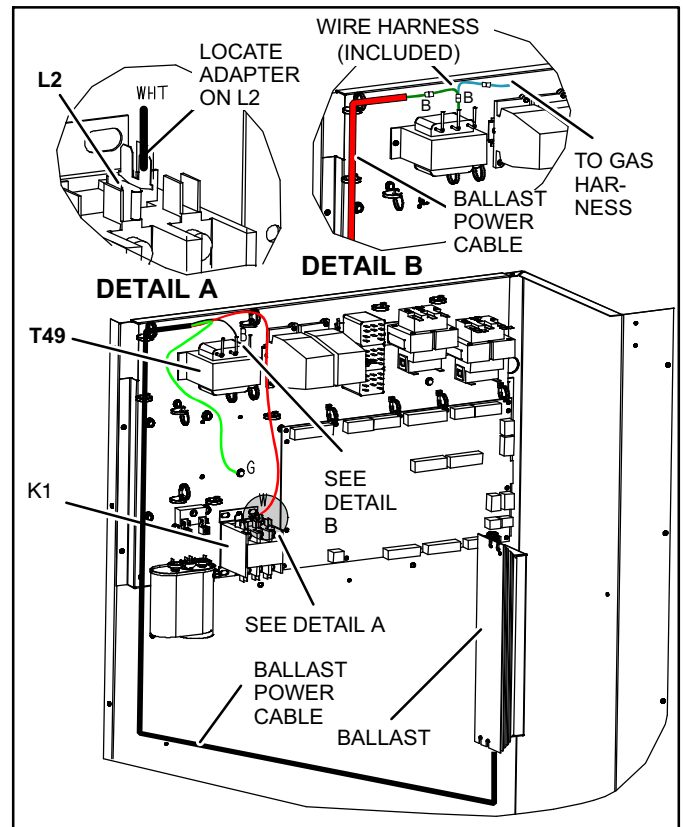

**Figure 4. Routing and wire-tying the cables**
3. Route the ballast cable with the 4-pin connector through the divider panel (see figure 4) into the blower section. Wire tie the cable at multiple locations along the refrigerant line.